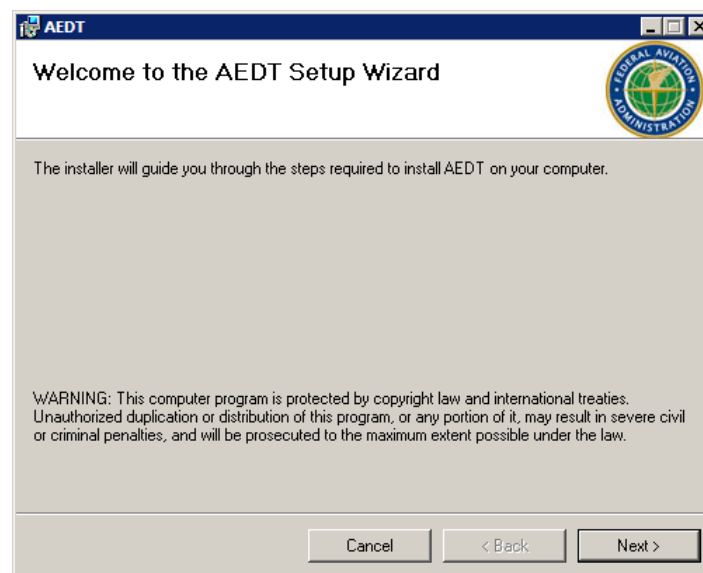

Figure 2-20 AEDT Setup Wizard – Welcome
4. The AEDT Setup Wizard will open (Figure 2-20). Click *Next*.